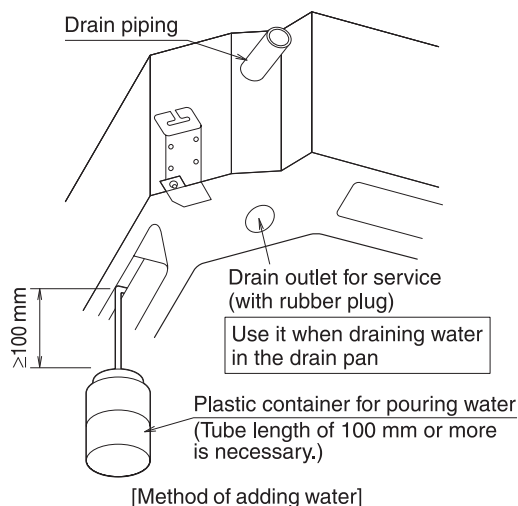

Fig. 18
- Gradually pour 1 liter of water from the air outlet on the left side of the drain socket into the drain pan giving caution to avoid splashing water on the electric components such as drain pump and confirm drainage by operating the indoor unit under cooling mode according to "10. FIELD SETTING AND TEST OPERATION". (Refer to Fig. 18)
3. Gradually pour 1 liter of water from the air outlet on the left side of the drain socket into the drain pan giving caution to avoid splashing water on the electric components such as drain pump. **(Refer to Fig. 18)**